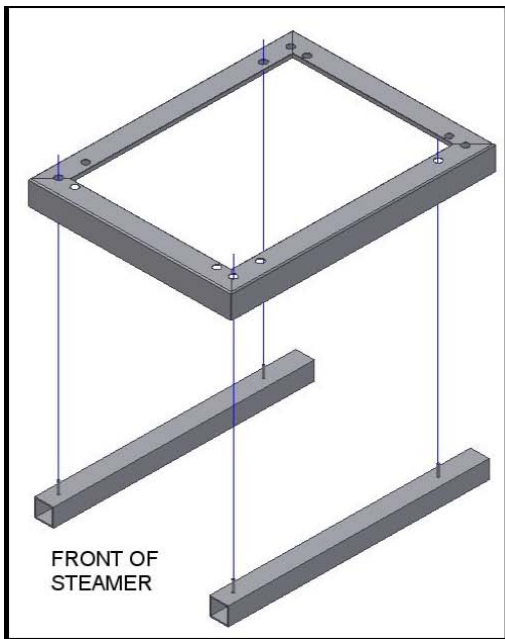

Figure 2
- a. Set studded side supports (Figure 5, Item 6) on top of lower unit. (See Figure 2.)